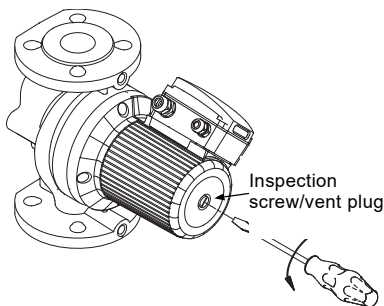

Fig. 12 Removing the vent plug
If the vent screw is to be loosened, care should be taken to ensure that the escaping scalding hot liquid does not cause personal injury or damage to components (see fig. 12).
3. Insert a small, flat-blade screwdriver into the slot in the end of the motor shaft (see fig. 12). Rotate the shaft with the screwdriver to make sure it does so freely.